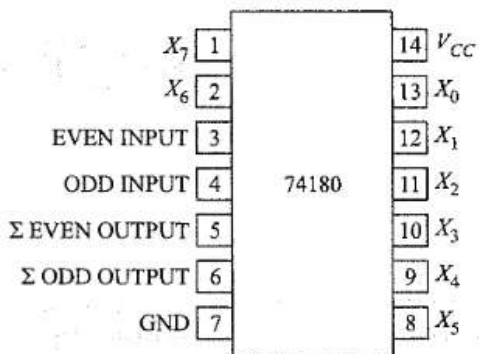

Fig. 4.35 Pinout diagram of 74180
- Figure 4.35 shows the pinout diagram for a 74180, which is a TTL parity generator-checker. The input data bits are X_7 to X_0 ; these bits may have even or odd parity. The even input (pin 3) and the odd input (pin 4) control the operation of the chip as shown in Table 4.8. The symbol Σ stands for summation